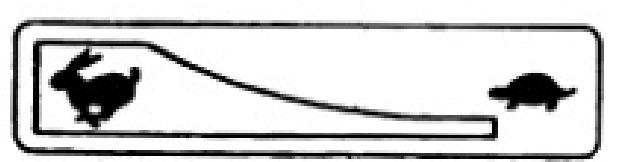

Figure 5-6. Throttle Position
3. Move throttle control lever (C) to “High” (Rabbit) position (Figure 5-6).
1. Move throttle control lever on engine to "Low" (Turtle) position (Figure 5-6) (if applicable).
2. Turn the engine ON/OFF switch to the OFF (0) position.
3. Turn the fuel valve to the OFF (0) position (if applicable).